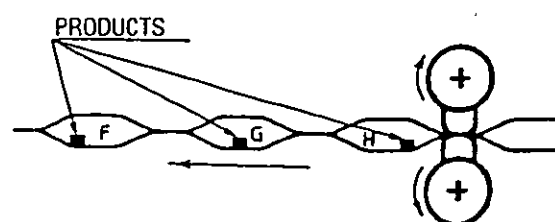

Fig. 24
- If the product is placed in the front end of the bag, Pos. F, Fig. 24, the cutting will be positioned incorrectly ("the cut comes too late").